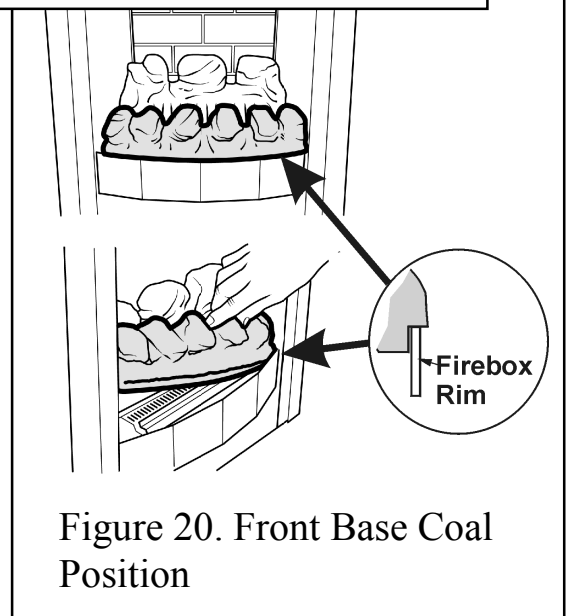

Figure 20. Front Base Coal Position
3. Place the front base coal in the firebox with its bottom front locating over the front rim of the firebox. Pull the coal forward so that it locates immediately behind the front rim of the firebox. See figure 20.